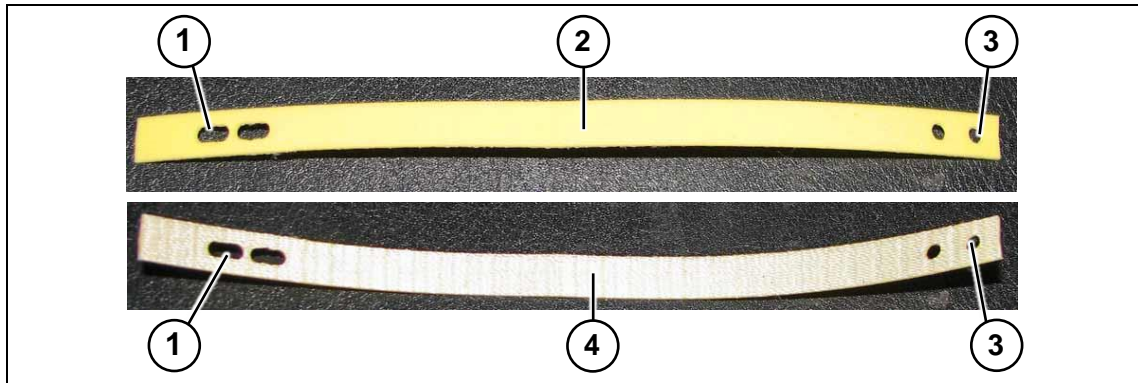
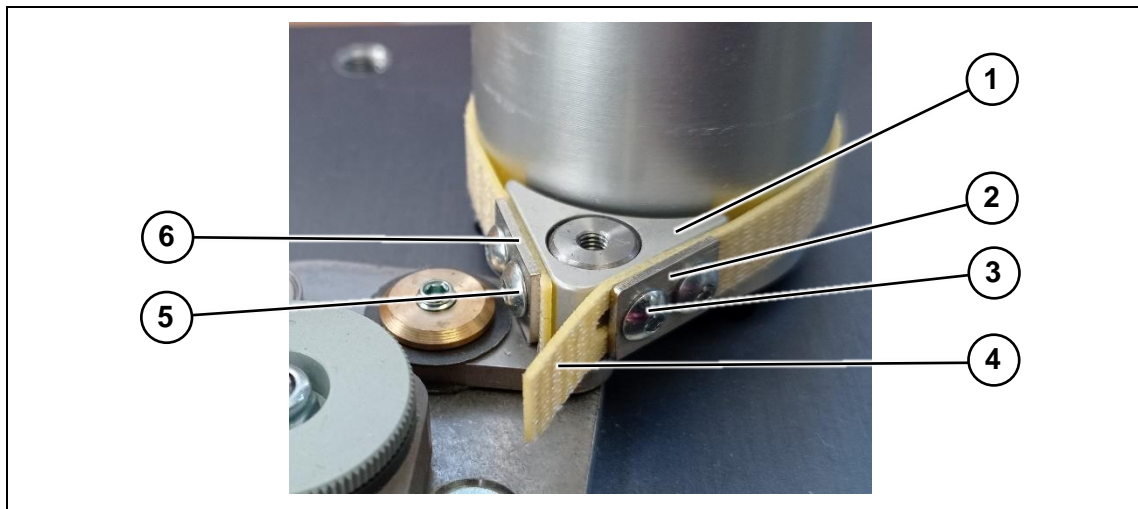

Figure 26 Brake belt
Figure 28 Brake belt - installation
The brake belt has a fin structured (yellow) side (Figure 26, pos. 2). It must be placed inside towards the axis (brake side). The coarse structured side (Figure 26, pos. 4) must be turned outside. The brake belt has two round holes (Figure 26, pos. 3) at one end and two oblong holes (Figure 26, pos. 1) at the other end.
- 5 Remove the clamping screws (Figure 28, pos. 3 + 5) on the belt block (Figure 28, pos. 1) and remove the clamping plates (Figure 28, pos. 2 + 6) with the brake belt.
- 6 Fasten the end of the new brake belt to the round holes (Figure 26, pos. 3) using the clamping screws (Figure 28, pos. 5) between the clamping plate (Figure 28, pos. 6) and the belt block (Figure 28, pos. 1). The finely structured (yellow) side (Figure 26, pos. 2) is in contact with the belt block (Figure 28, pos. 1).
- 8 Insert the brake belt end (Figure 28, pos. 4) with the oblong holes under the clamping plate (Figure 28, pos. 2).
- 9 Mount the bottom clamping plate (Figure 28, pos. 2) with clamping screws (Figure 28, pos. 3) without tightening it. It must still be loose.
- 10 Pull the brake belt end (Figure 28, pos. 4) outwards for pre-tensioning and then tighten the clamping screws (Figure 28, pos. 3) of the clamping plate (Figure 28, pos. 2).